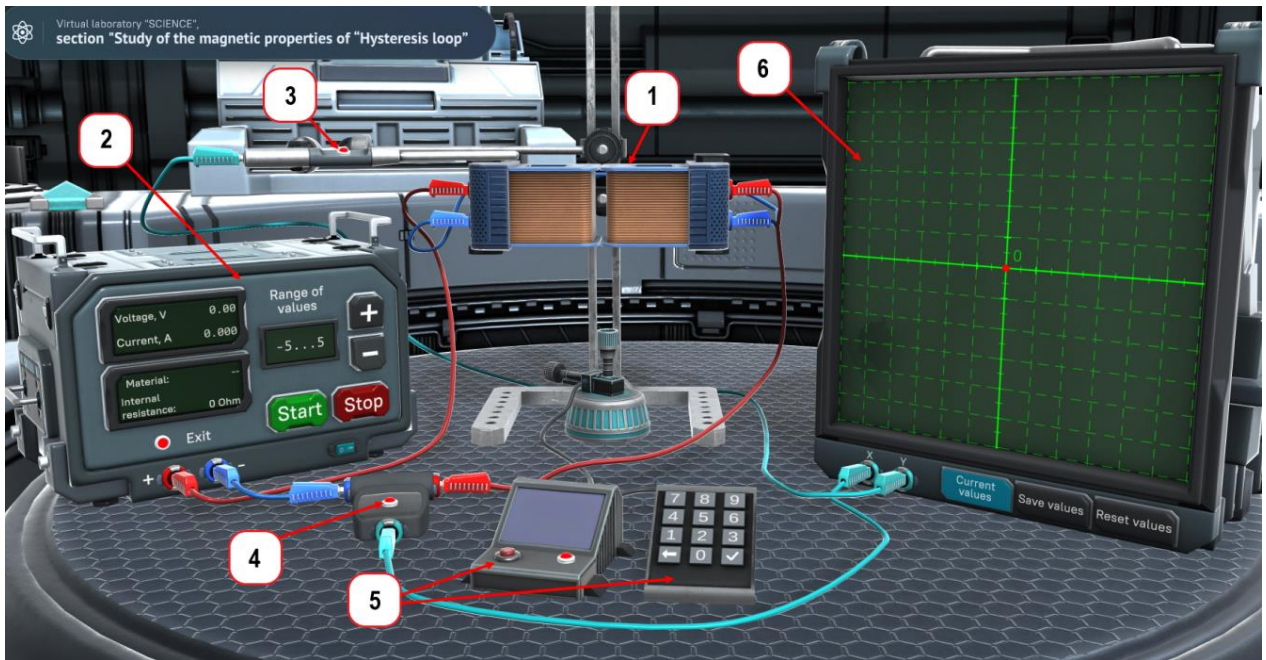
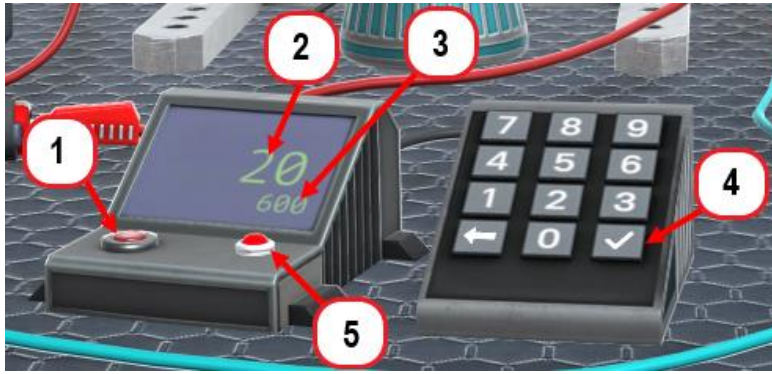
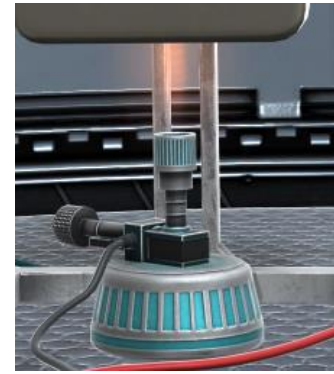

Figure 13 – Appearance of the installation for studying magnetic properties
Figure 15 – Burner control unit
Figure 16 – Burner
The installation consists of the following elements (Figure 13):
Power supply (2 in Figure 13) works in automatic mode. The device starts at 0V and increases the voltage by 1V until it reaches the upper limit of the set range. The source then decreases the value by 1V until it reaches the lower end of the range. At the lower limit of the range, the source changes direction again, etc. The period of value change is 1 second.
The magnetic field sensor (3 in Figure 13) lights up red if the magnetic induction of the core is 0. For other values of magnetic induction, the sensor lights up green.
The current sensor (4 in Figure 13) lights up red if there is no current in the circuit. If there is current in the circuit, the sensor lights up green.
Burner control unit (5 in Figure 13) consists of a digital panel and a screen (Figure 15). To turn on the control unit, press button (1). The top line of the screen (2) will display the current core temperature (20°C by default). Using the numeric keypad, enter the temperature to which you want the core to be heated — this value will be displayed on the bottom line of the screen (3). The maximum core temperature is 1200°C. To adjust the value, use the  button. To start the heating, press the  button (4) — the burner will start working (Figure 16). During heating, the indicator (5) lights green.
The **informational display** (6 in Figure 13) displays the values of the magnetic field of the coils (H) and the magnetic induction of the core (B).